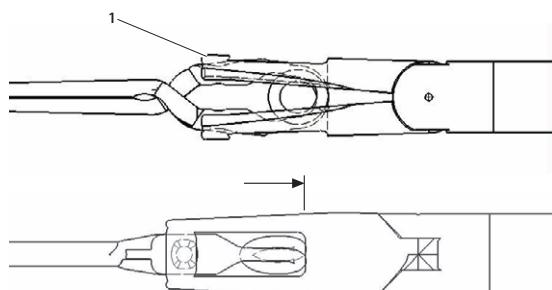

Fig. 2
- Insert the clips into the jaw pieces 1 of the clip applying/removal forceps as far as they will go, see Fig. 2.